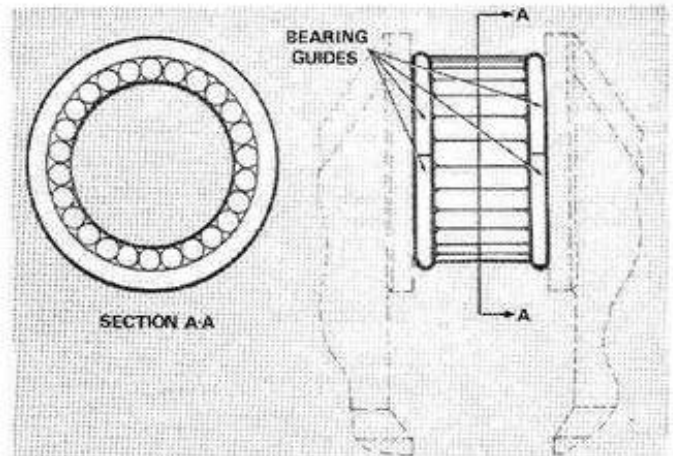

Figure 78. Needle Bearings and Bearing Guides.
- b. The Jacobsen 321 engine uses a connecting rod bearing kit. It consists of two liners for the connecting rod, four crank-pin needle bearing guides and 28 needle bearings. The 28 needle bearings are held together in a wax strip for easy installation. (See Figure 78.)